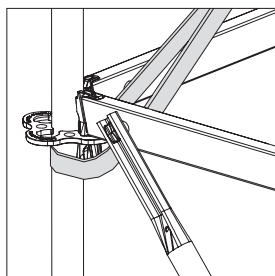

Fig. C1.04a
4. Attach using suitable lifting gear (e.g. round slings) as shown in the figure and lift with the crane Stop angle max. 60° . (Fig. C1.04a)